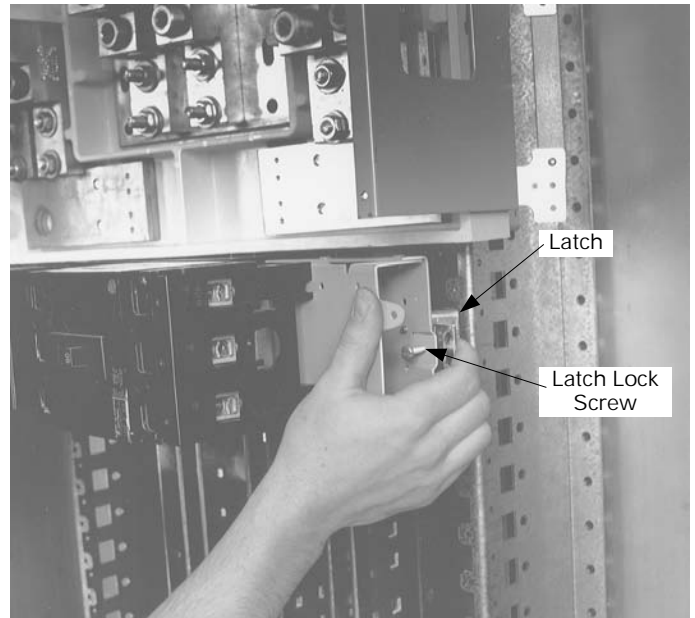

Figure 5. Positioning the breaker module.
4. **Position the breaker module.** Loosen the latch lock screws and fully retract the latches. Line up the guide fingers on both ends of the module with the notches in the panelboard interior rails, as shown in Figure 5. Allow no space between units.